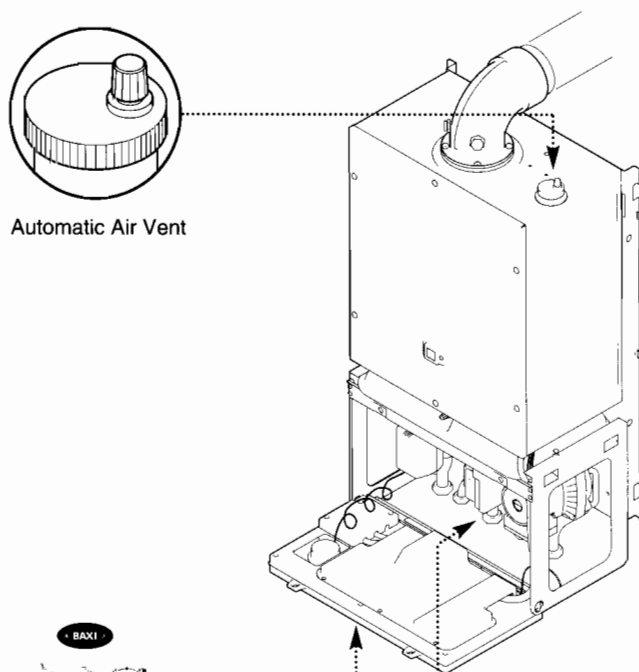
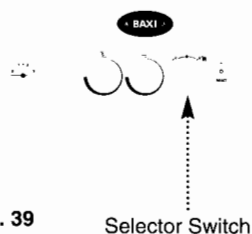

Fig. 37
Fig. 39
5. Open the automatic air vent (Fig. 37). To help purge the primary circuit turn the pump on & off several times by using the On-Off selector switch (Fig. 39).
2. Set the selector switch to the hot water only position (Fig. 39) and turn any hot water tap fully on and leave on.